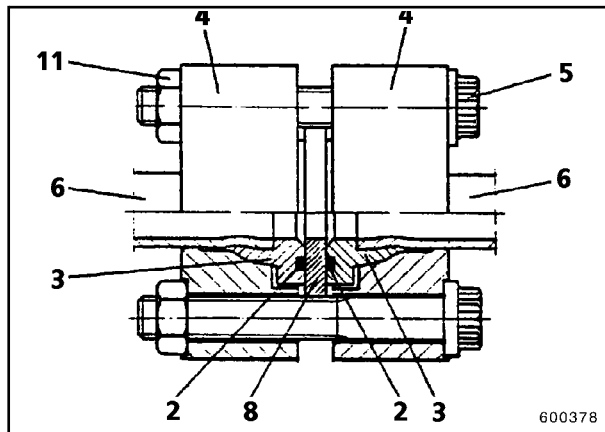

Fig. 3
1) If the second F-ring also has a seal ring groove (3, Fig. 3), a centre disk (8) and a second seal ring (2) must be used.